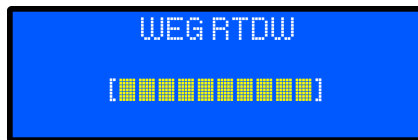

Figure 6.1: Product electronics startup bar
- **The battery DC power supply:** This function is called "DC-Start"; with it, the product electronics are powered by the battery DC voltage. For this startup, the battery power cables must be connected to the product, the battery circuit breaker Q2 must be closed and the battery bank voltage must meet the minimum values shown in Table 6.1 on page 6-1. On the HMI, press and hold the **On** key for a few seconds, until the startup bar is fully loaded, as shown in Figure 6.1 on page 6-1.